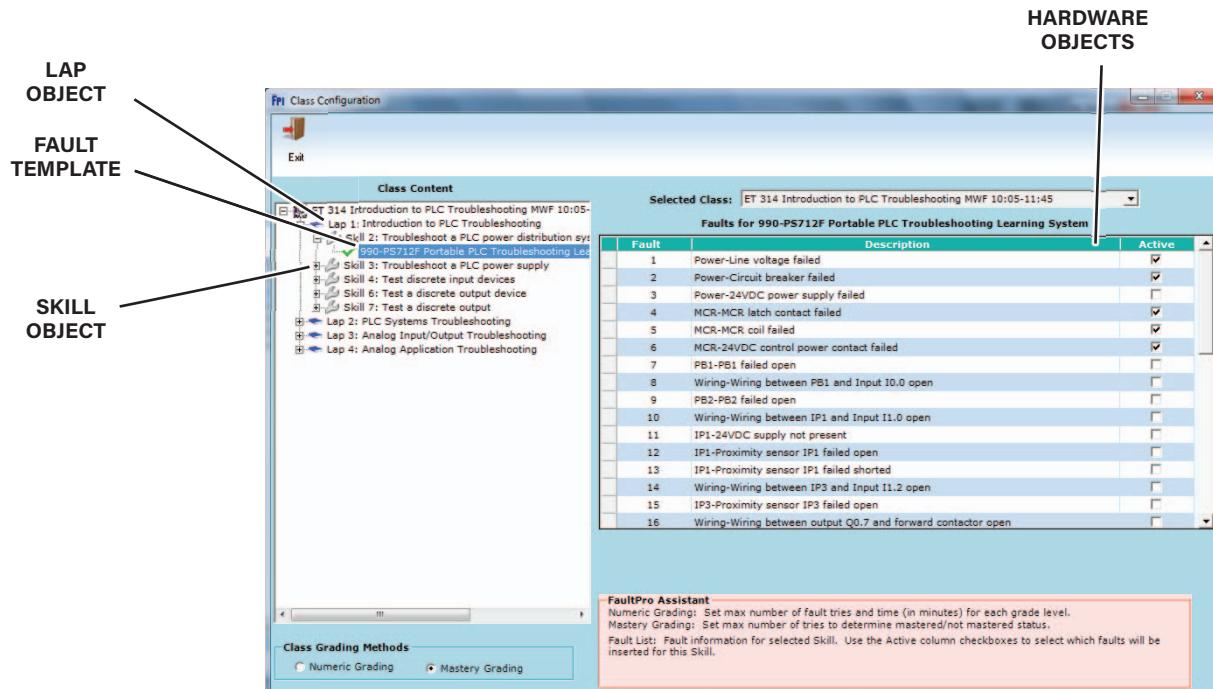

Figure 55. Template Expanded
The template tree and all of its associated objects are collapsed by default. Objects may, however, be expanded to show their contents by clicking the + sign next to the desired object, as shown in figure 55.
**Hardware objects** - Hardware objects are a collection of potential faults, organized by the hardware that they affect. Selecting a hardware object in the project tree enables the user to check and uncheck that hardware's potential faults making the fault active and inactive respectively. Figure 55, for example, shows the hardware object 990-PS712F Portable PLC Troubleshooting Learning System and its associated faults selected and made active in the edit window.